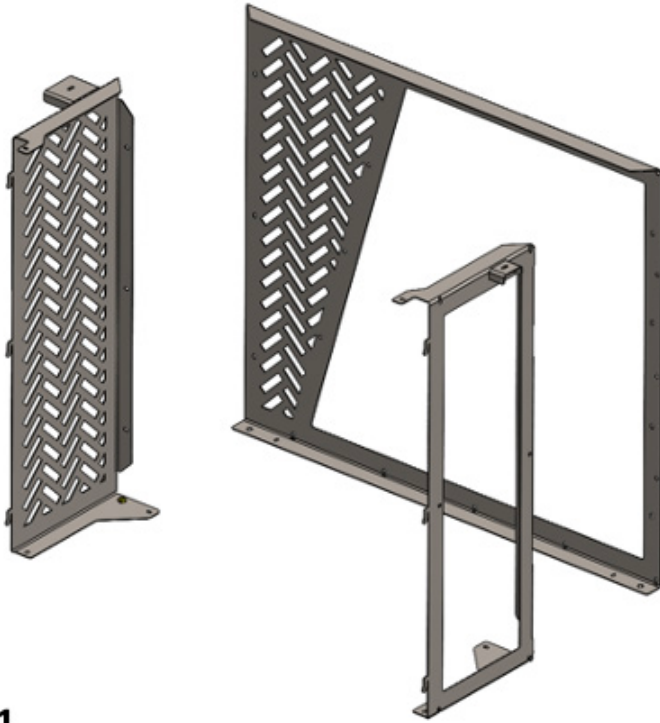

Figure 1
1. Use 5/32" Allen Wrench and 7/16" combination wrench (or socket) to attach 23006 & 23007 side panels to the 23005 front panel. (Figure 1) Align holes and attach using 1/4" Stainless Steel Cap head bolts, stainless flat washers, and stainless.